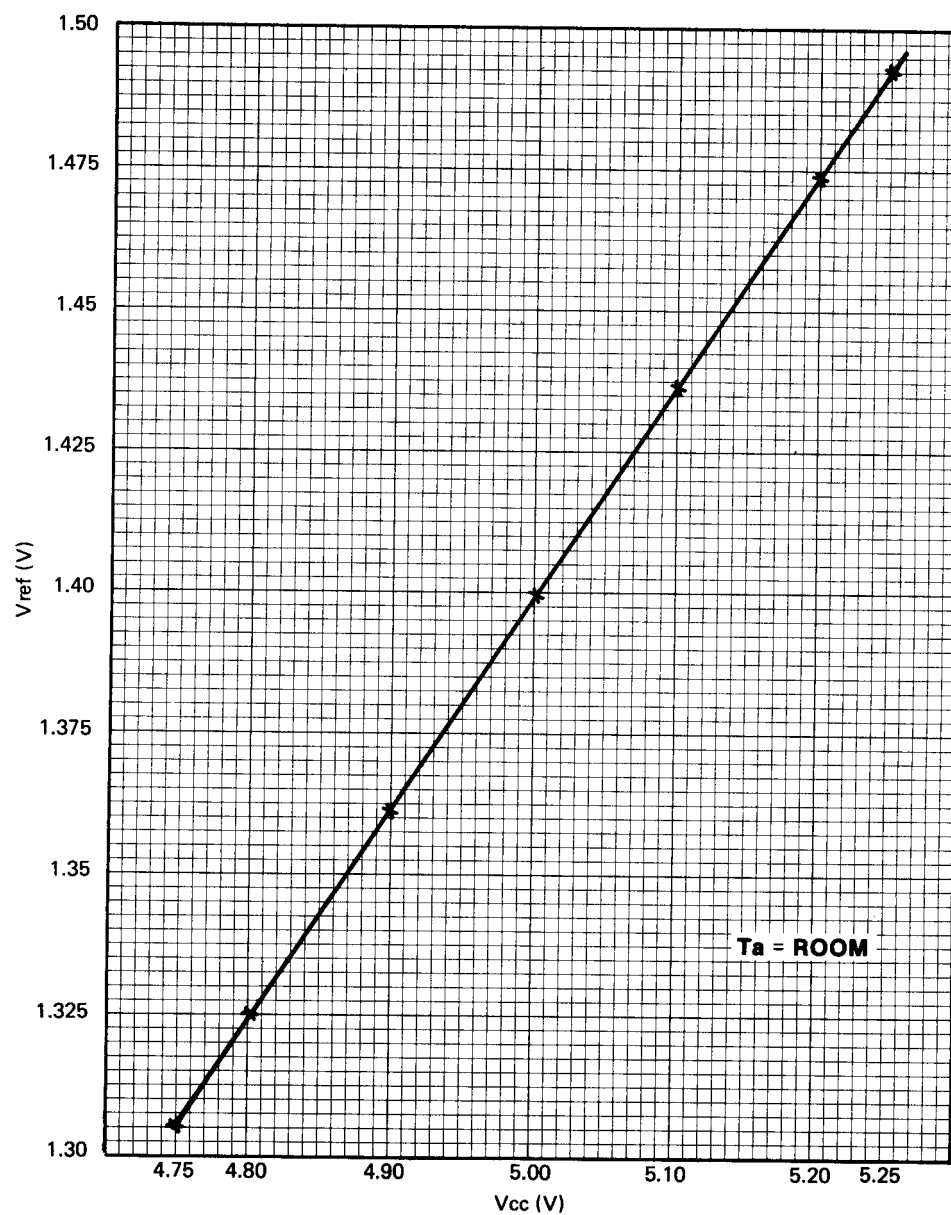

Figure 5-1. Data Probe V_{CC} — V_{ref} Graph
- c. Connect the positive test lead to U1(5). Compare this voltage with the V_{ref} voltage corresponding to the V_{CC} (step b) on *Figure 5-1*.
Figure 5-1 is a graph relating the U1 pin 5 voltage to U1 pin 7 voltage.